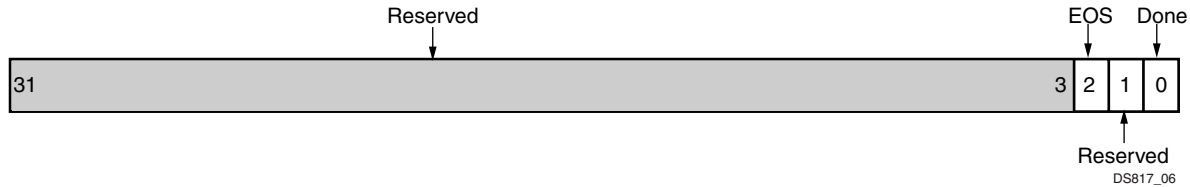

Figure 2-5: Status Register (SR)
The Status Register (SR) shown in Figure 2-5 is a 32-bit read register that contains the ICAPE2 status bits. The bit definitions for the register are shown in Table 2-9.